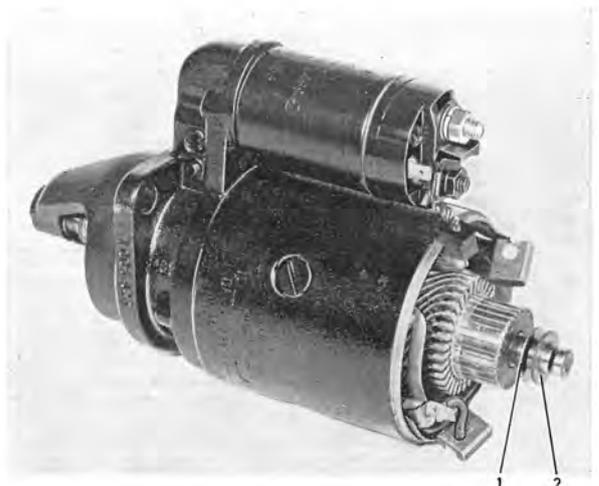

Fig. 3-34. Starter motor with brush bridge removed
5. Remove the bridge from the armature shaft. NOTE. The washers are as shown in Fig. 3-34. When the bridge is removed, the "-" brushes follow also, but "+" brushes will remain in the field winding.
8. Fit the washers on the armature shaft as known in Fig. 3-34.